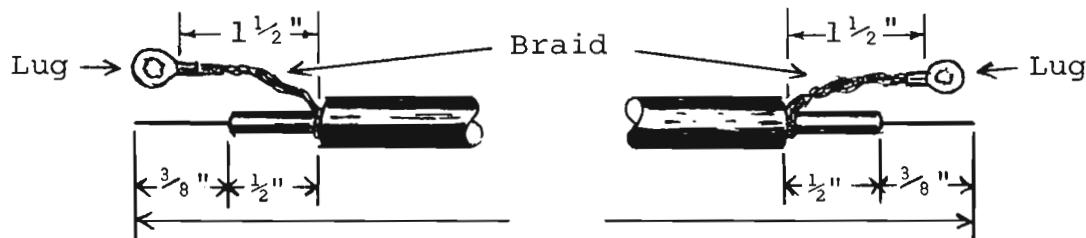

Figure 2-2. Coaxial cable preparation.
- ( ) Step 7. Prepare RG59/U coaxial cable. (See Figure 2-2.)